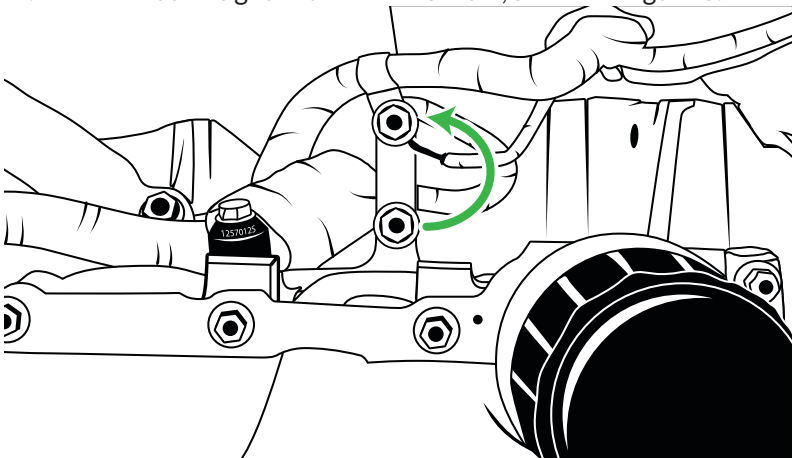

Figure 3 - Relocated Knock Sensor & Bracket
- c. Relocate the bracket to the screw hole directly above it, where the ground strap is secured, shown in Figure 3.
- d. Reorient and tighten the knock sensor, shown in Figure 3.